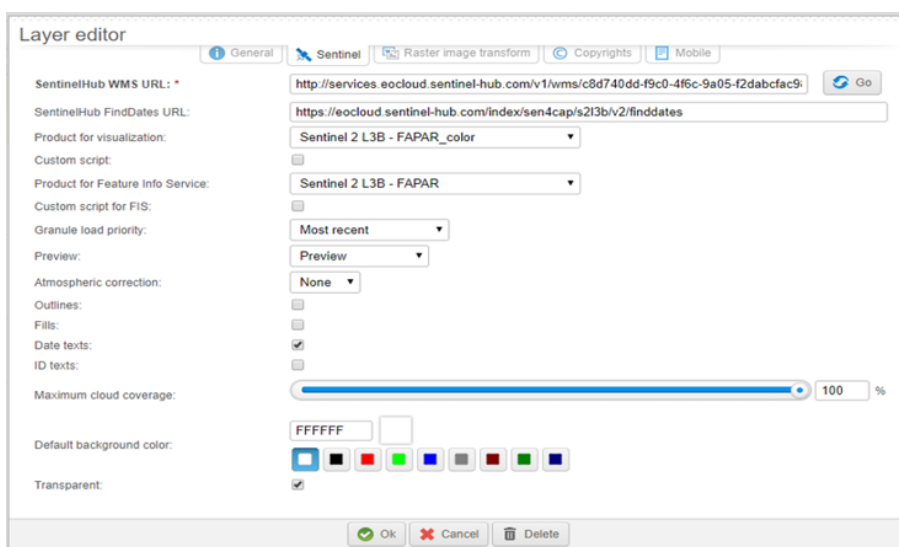

Figure 6-10. Settings for the S2 L3A - FAPAR layer
- **S2 L3A – FAPAR** (Figure 6-10)